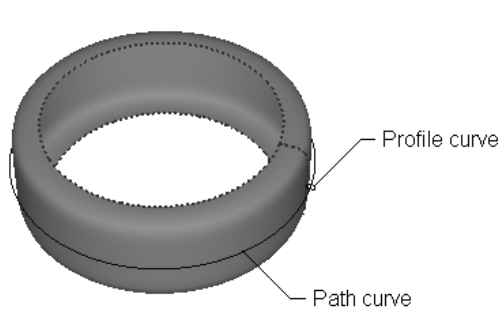
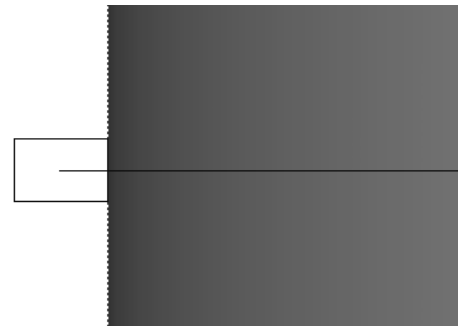

Figure 7-97 Profile curve and path curve
Figure 7-98 Profile curve and path curve in the **Front** window
2. Choose the **Circular arc** button from the **Keypoint Curve Toolbox** and create the path curve, as shown in Figure 7-97.
3. Choose the **Polyline** button from the **Keypoint Curve Toolbox** and create the profile curve, refer to Figure 7-97. The two profiles in the **Front** window are displayed, as shown in Figure 7-98.